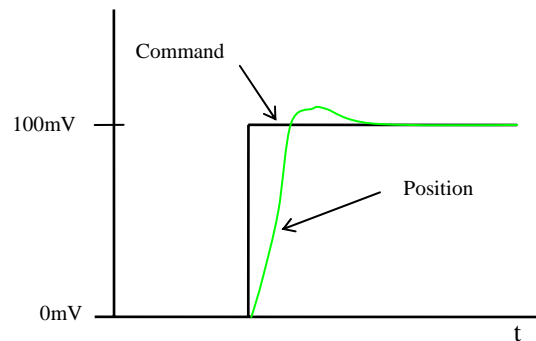

Figure 13: Rough tune response
- E. Input a 100mV_{pp}, 20 Hz step command into J2, pins 1&2. (Be sure the SERVO_ENABLE line is tied low.) Increase the velocity gain (CW) a few turns. **Note:** If the scanner begins to oscillate at high frequencies, reduce the *velocity* gain until it stops.
- F. Increase the *error* gain. The scanner should begin to follow the command signal. Continue to increase the *velocity* and *error* gains until the position signal is following the command as shown in figure 13. A slightly under damped response will suffice.